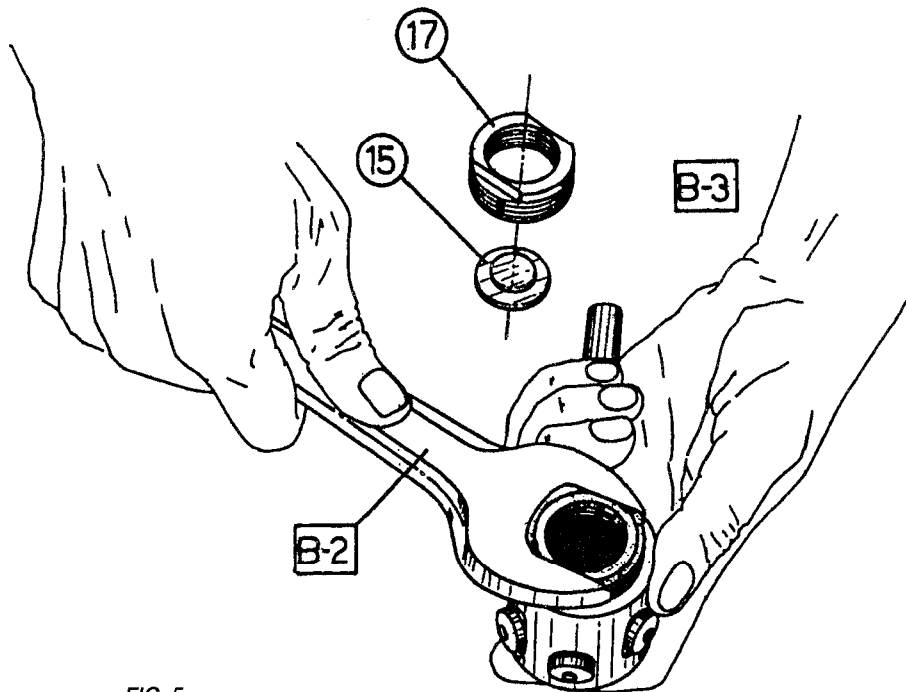

FIG. 5
9. Unscrew the stop nut (17) using the spanner (B-2) and remove the spring seat (15). (Fig. 5).